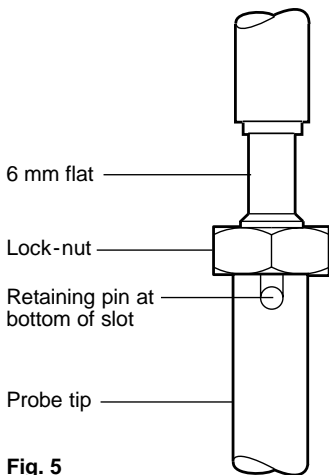

Fig. 5
- Screw the probe tip onto the probe until the hole in the probe lines up with the bottom of the slot in the probe tip (see Fig. 5).